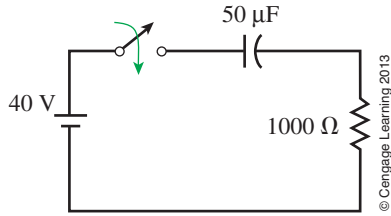

FIGURE 11-67
46. Obtain a plot of circuit current and resistor voltage for the circuit of Figure 11-67. Assume an initially uncharged capacitor. Use the cursor to read values at $t = 50$ ms and confirm analytically. Repeat if $V_0 = 100$ V.